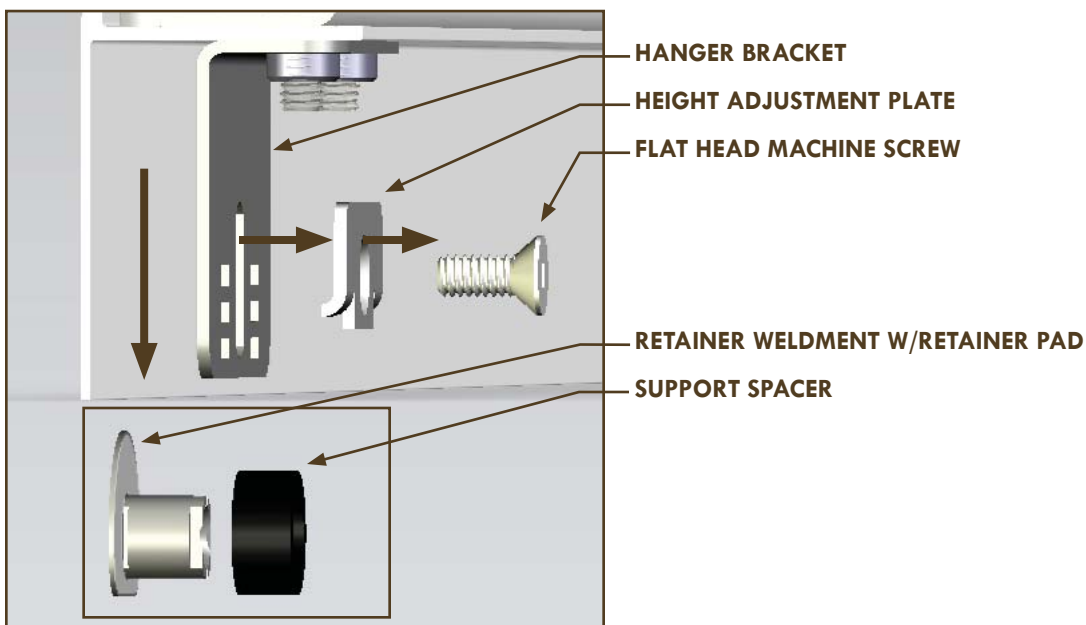

Figure 4. Hanger Bracket Assembly.
STEP 3. Separate Retainer Weldment, Retainer Pad, and Support Spacers from the rest of the Hanger Bracket Assemblies. See Figure 4 below. Keep Height Adjustment Plates (QTY 4) and ¼ - 20 x ½" Flat Head Robertson Machine Screws (QTY 4) at hand as they will be needed later to fasten Glass to Hanger Bracket Assemblies.